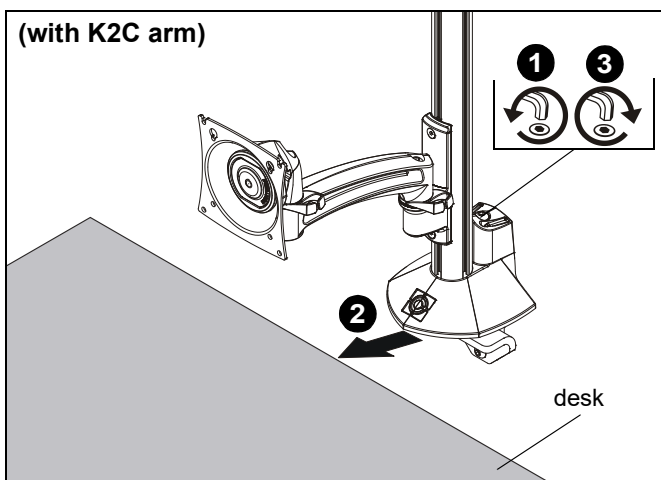

Figure 2
1. Loosen clamp screw until enough space is created between clamp and mount to allow for desk mounting. (See Figure 2)
2. Place mount on top of desk at desired mounting location. (See Figure 2)
3. Tighten clamp using clamp screw until mount is securely fastened to desk. (See Figure 2)